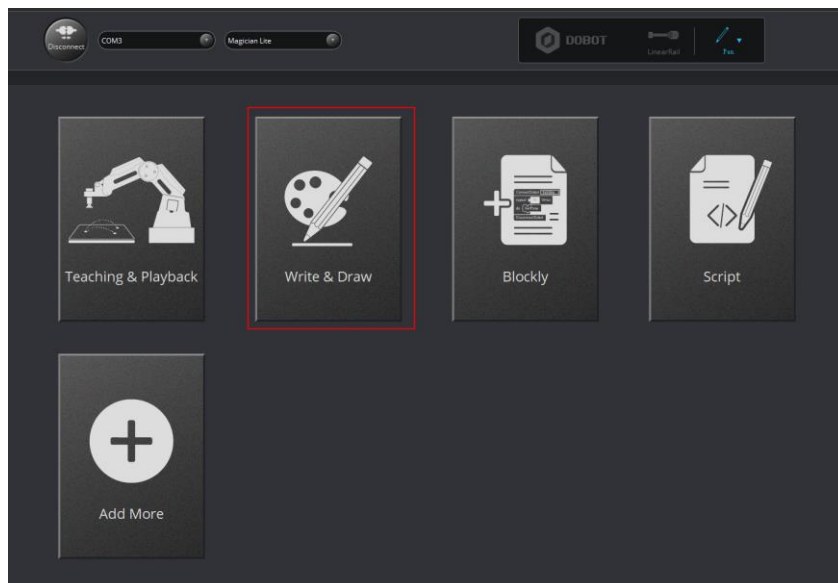

Figure 5.38 Click Write & Draw
Step 2 Click **Write & Draw**, as shown in Figure 5.38.